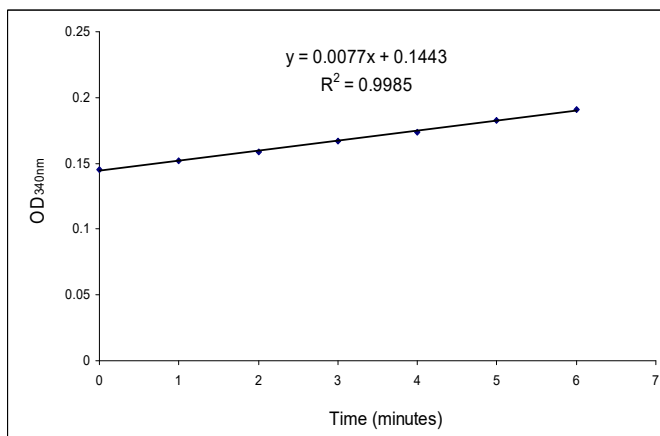

Figure 1. Change in absorbance of diluted CK positive control at 340nm.
2. Add 90 μL of working reagent mix into each well of the 96-well plate containing diluted CK positive control, samples, and blank. Immediately mix the reaction and start recording OD_{340nm} over 6-minute interval, collecting data every 1 minute. Figure 1 shows data for CK positive control.